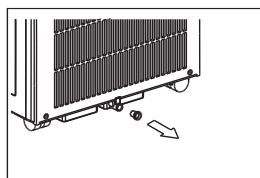

Fig. 25
- When the water level of the bottom tray reaches a predetermined level, the unit beeps 8 times, the digital display area shows "P1". At this time the air conditioning/dehumidification process will immediately stop. However, the fan motor will continue to operate(this is normal). Carefully move the unit to a drain location, remove the bottom drain plug and let the water drain away(Fig.25). Restart the machine until the "P1" symbol disappears. If the error repeats, call for service.
- Remove the plug from the bottom drain outlet, all the water in the bottom tray would drain out (See Fig.25).